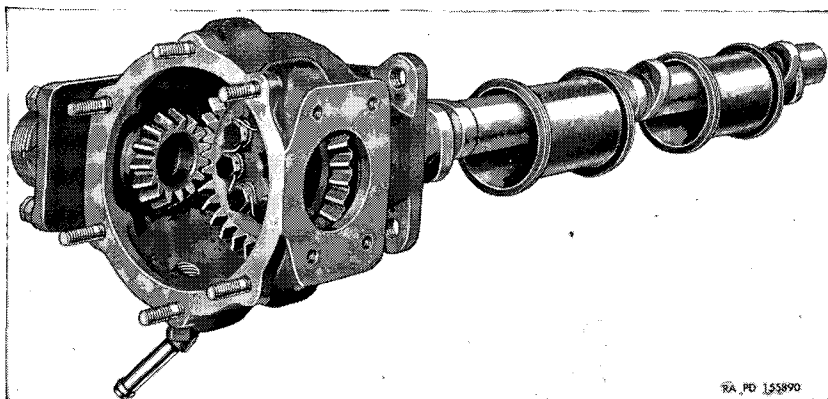

Figure 20. Camshaft and gear housing removed—from engine right (1-3-5) side.
d. Remove the two hex-head bolts (P, fig. 53) and (T, fig. 54) and tab washers holding the camshaft gear housings to the cylinders. Loosen the camshaft drive shaft housing nut (DD, fig. 53) and (WW, fig. 54) at the accessory case. Remove the camshaft, inter-cylinder connectors, and gear housing as a unit (figs. 20 and 21).
a. Remove the four drilled hex-head bolts (V) and their washers, and the 16 jam nuts, plain nuts, and plain washers (S) (T)